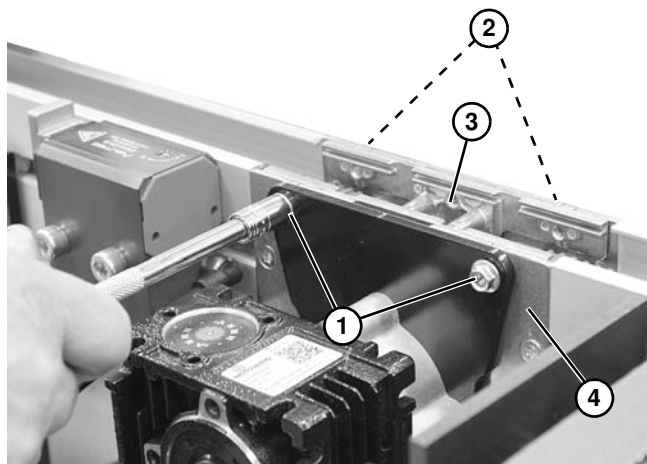

Figure 38
- b. **Drive Side:** Remove hex flange screws (**Figure 38, item 1**). Press in on hex flange screws (**Figure 38, item 2**) and lift mid drive cartridge (**Figure 38, item 3**) from mid drive assembly (**Figure 38, item 4**).